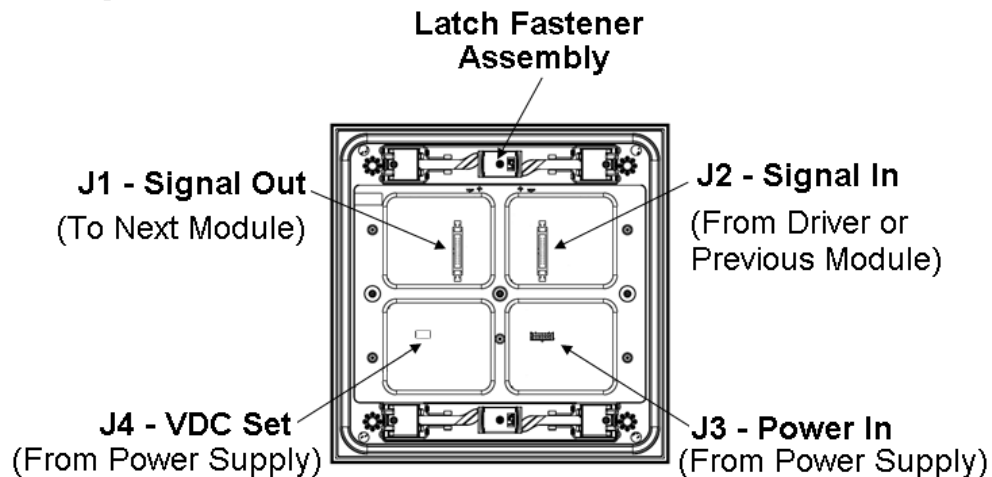

Figure 37: Module, Rear View
2. Use a 1/8" hex wrench or 7/32" nut driver to loosen the latch fastener assembly (**Figure 37**). Turn each fastener a quarter-turn clockwise (if using a nut driver, turn the top latch counter-clockwise and the bottom latch clockwise).